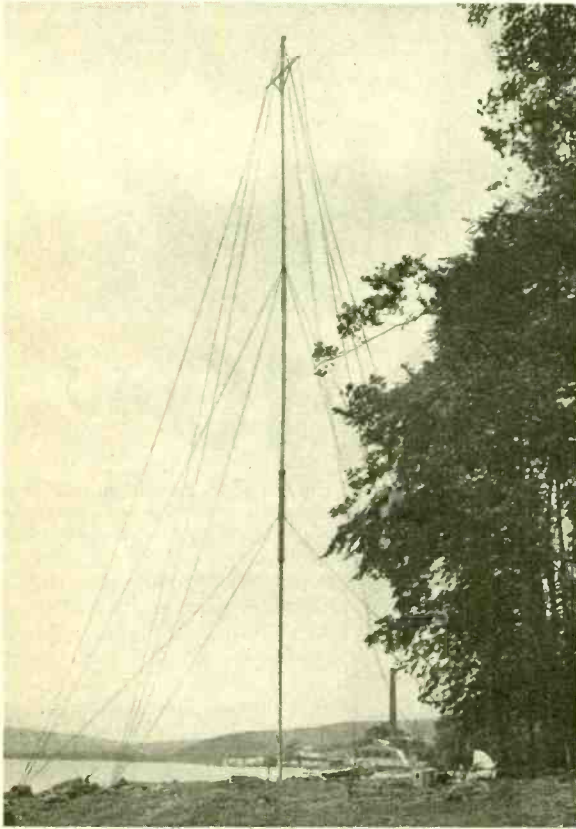

FIG. 3
calibrate the measuring equipment. This is done in Fig. 3 by fitting curve (3) to the solid circles. The position of all the other smooth curves is thus fixed and they show that the absolute magnitude of the received field strength is of the order of a hundredth of the value which would be expected from the formula which includes a surface wave.